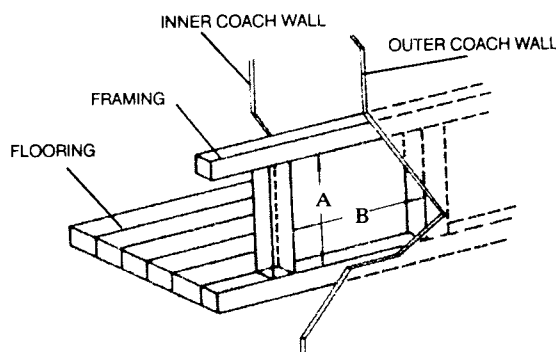

FIGURE 1
(1) Provide an opening flush with floor in outer wall of coach as shown. Wall of coach should be framed as shown in Figure 1. When the water heater is installed directly on carpeting, tile or other combustible material, other than wood flooring, the water heater shall be installed on a metal or wood panel, at least 2 inches greater than the width and length of the water heater. If you prefer, you may cut away the carpet or flooring material, if other than wood, from underneath the water heater and extending 2 inches beyond the width and length of the water heater.